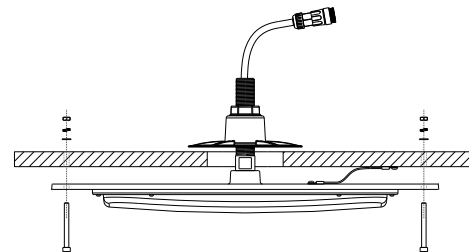

Figure 4
4. Attach safety cable to the mounting surface. Feed pipe nipple through 4-inch hole. Add provided nut on to the pipe nipple and tighten. Insert (4) threaded bolts through bolt holes in the luminaire, add nuts and washers, and tighten. (See Figure 4)